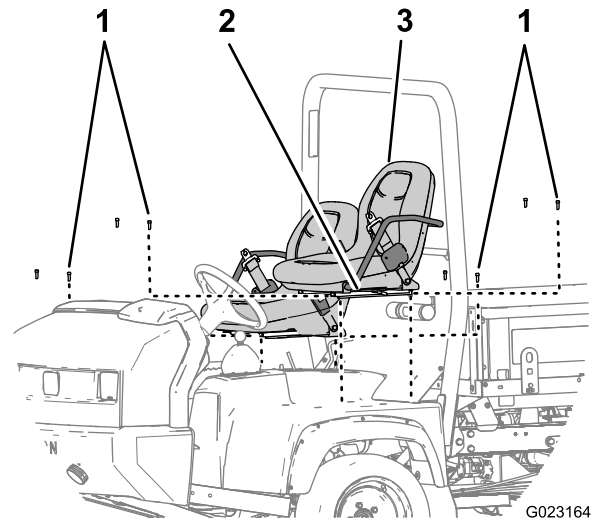

Figure 8
5. Remove the 8 socket-head bolts that secure the seat rails of the seat to the chassis and remove the seats (Figure 8).